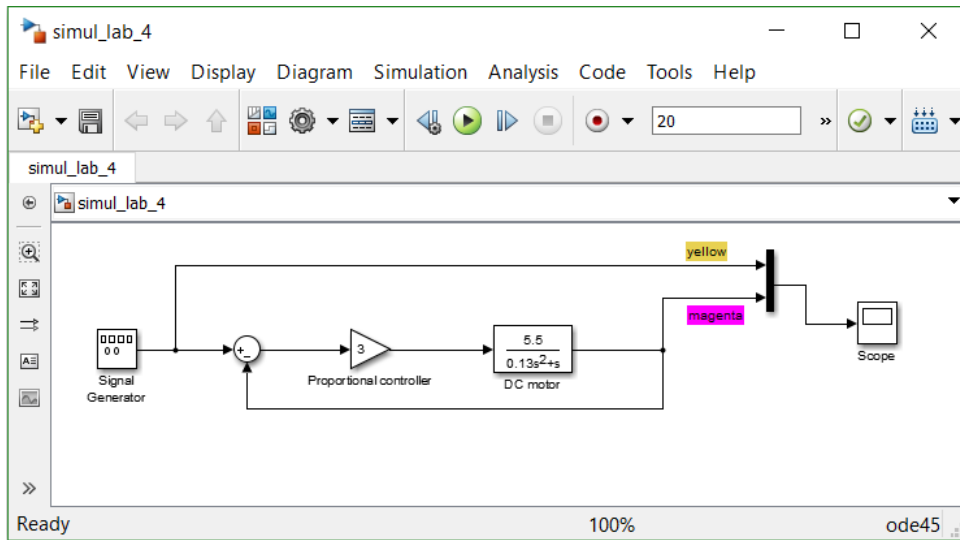

Figure 4.3: File `simul_lab4.mdl`.
- Use SIMULINK file `simul_lab4.mdl` (figure 4.3) to see what happens to the control loop when the proportional controller varies. Try different values. The motor parameters do not necessarily correspond to those of the motor in the laboratory.